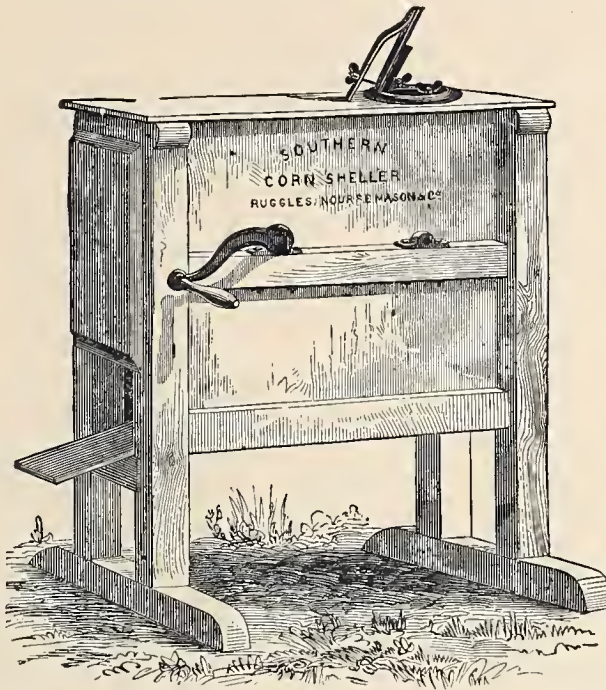

Fig. 406. — Southern Corn-Sheller.
*The Southern Corn-Sheller*, represented by *Fig. 406*, is made expressly for large farms and plantations where the corn is large in the ear. As with the Boston *SHELLER*, it is made either with one or two hoppers.